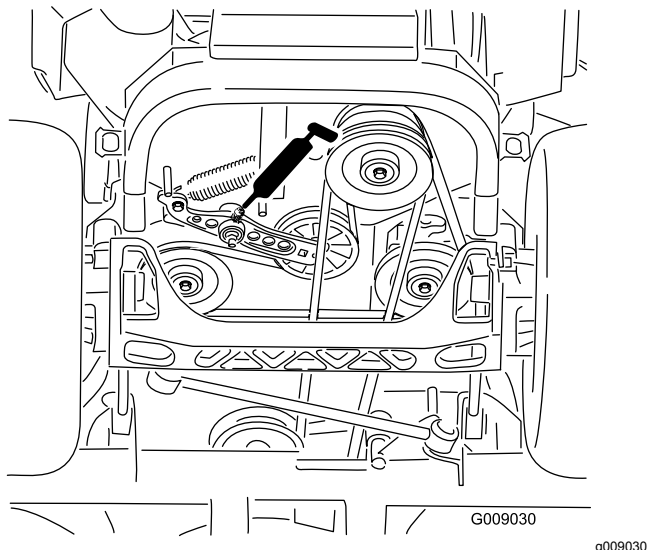

Figure 43
- Grease the drive belt idler arm (Figure 43).